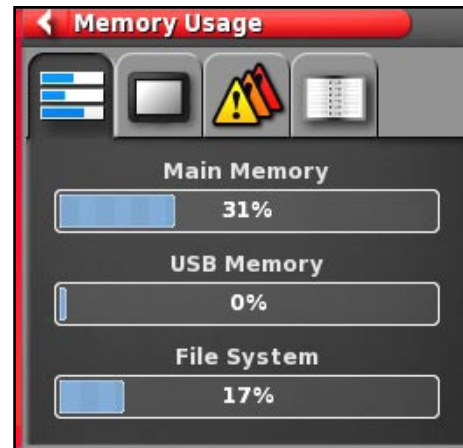

Figure 10.16 - Memory Usage
1. Memory Usage (*Figure 10.16*) tab displays memory usage in % for main console memory, USB memory and file system.